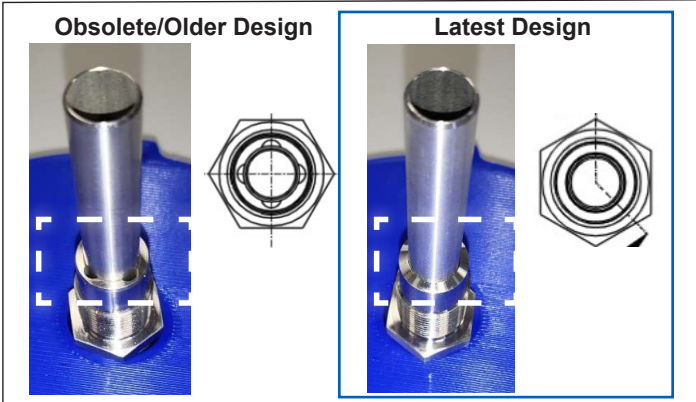
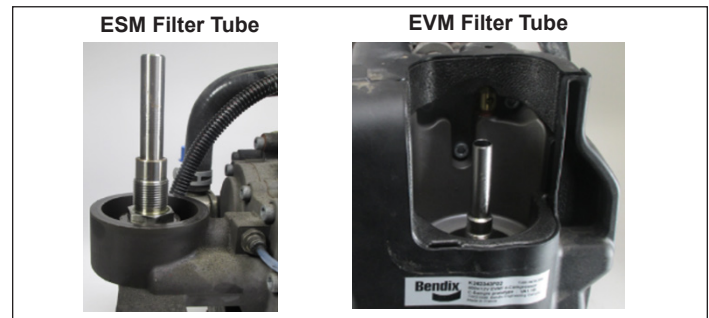

Figure 4 – Tube Version Identification
Figure 6 – Discard Filter Tube
4. Identify the tube version. See Figure 4.
2. Unscrew the filter tube using a 27-mm socket or wrench and discard the tube. See Figure 6. **NOTE:** Obsolete/older designs of tubes may contribute to oil-related issues. See Figure 4 to assist in identifying the tube version and replace the tube if it is the obsolete/older design.
2. Verify whether the tube is the old or new design. The new design is modified to help avoid corrosion particles from entering the oil return channel. See Figure 4.
- If the tube is the new design, clean the tube by removing any particles from the tube and nut. Ensure that the oil clearance passage (where the tube and nut meet as shown in Figure 4) is free and clear of debris while exercising caution to not push debris into the tube.